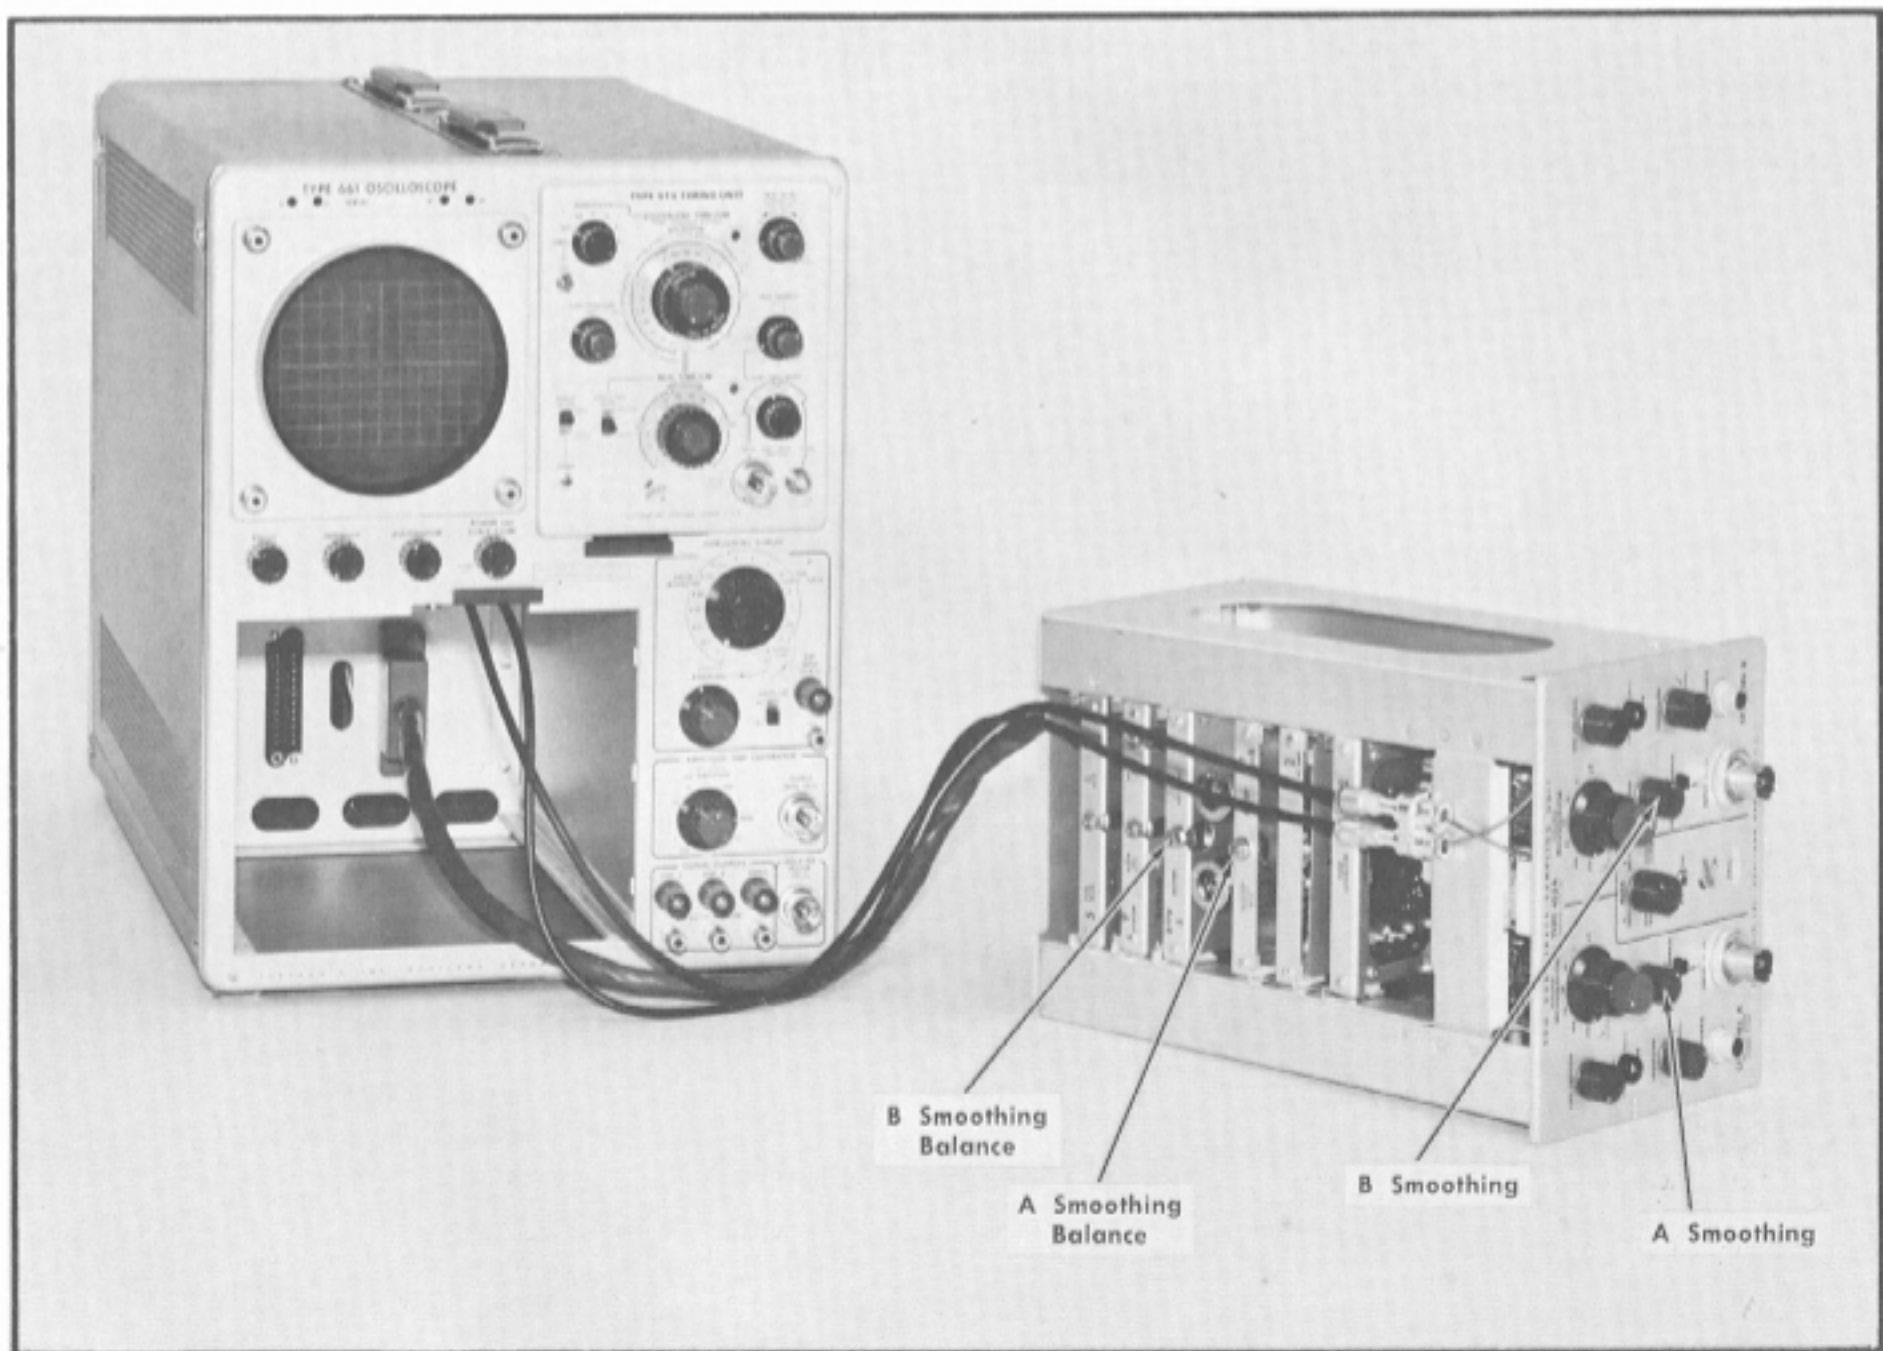

Fig. 6-13. Initial test equipment setup for steps 4 through 6.
- a. Test Equipment setup is shown in Fig. 6-13.